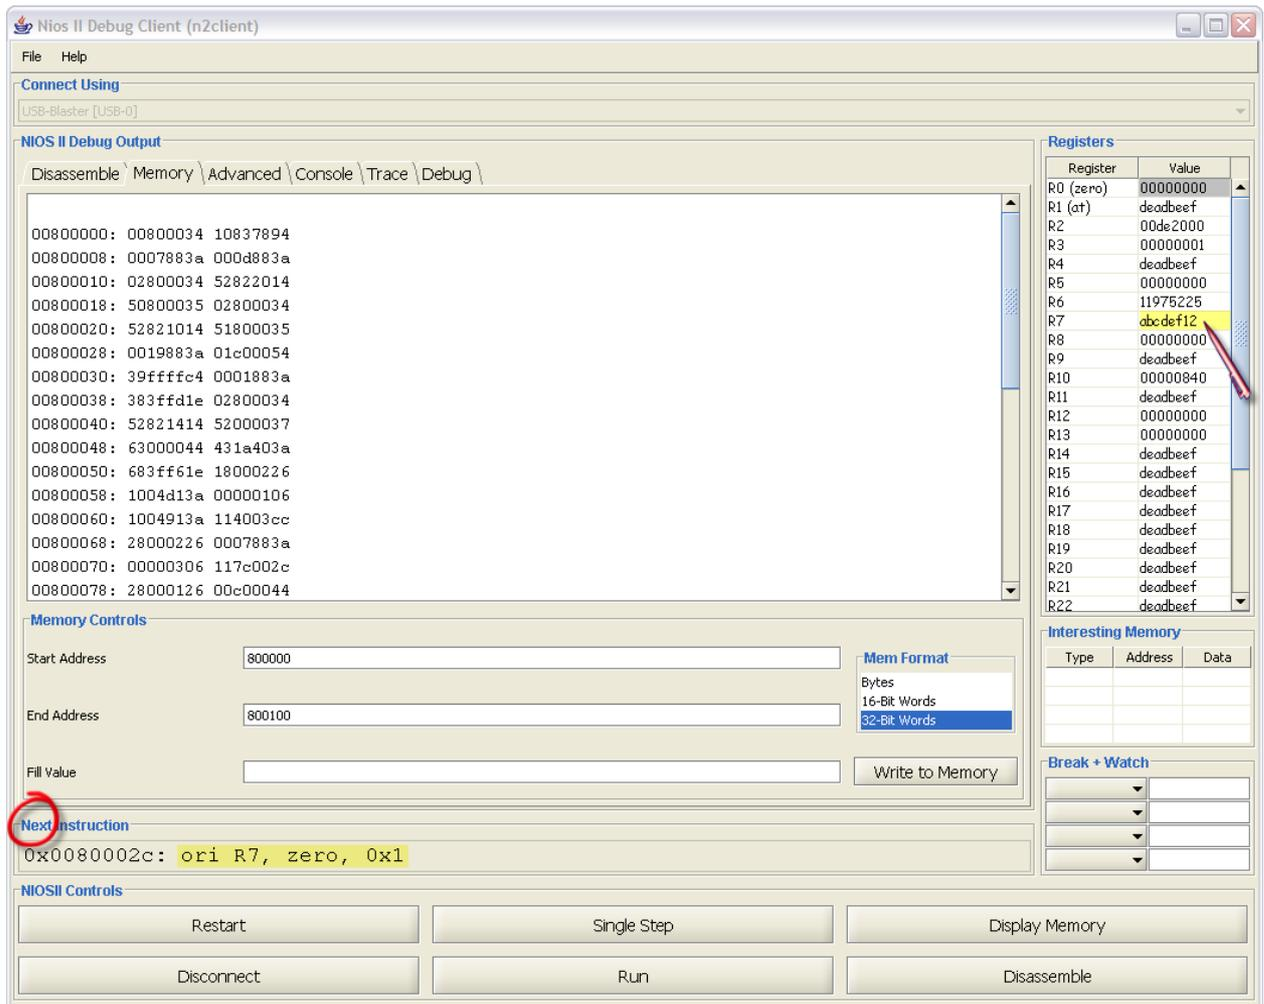

Figure 18: Register Value Changed.
- Figure 18 shows the result of changing the contents of register **R7** to the HEX value **abcdef123**. Although, only a change of **R7** has been described, all registers (including the program counter) can be changed in the same manner.
Notice in Figure 18 that the Nios II Debug Client indicates that the **Next Instruction** to be executed is one which will load the register **R7** with the value **1**. This will be different in your case depending on the application downloaded and where it was stopped; however, the general technique of the single step will remain the same.